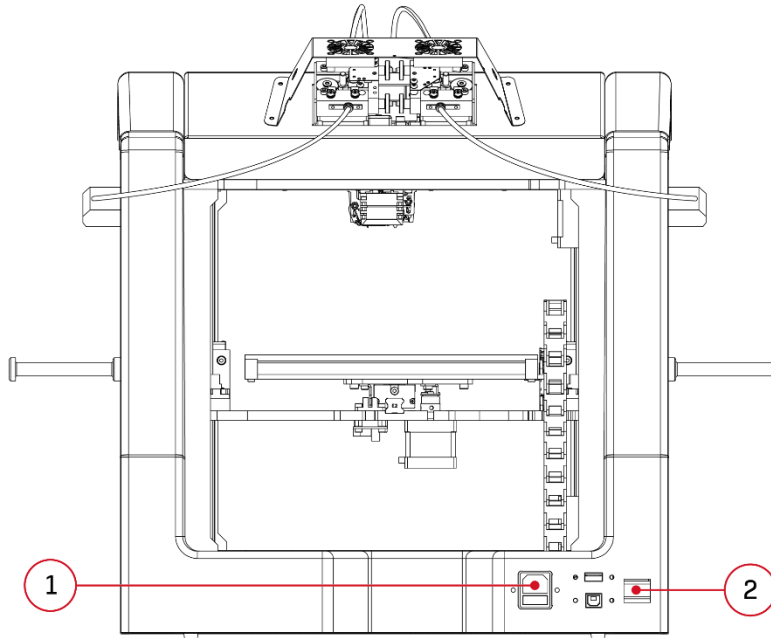

Fig. 36 Rear view of the printer: 1. Power supply socket | 2. Printer switch
3. Place the printer on an even and stable surface and connect it to a power source using a power lead. The power supply socket is located at the back of the printer (fig. 36).
4. To switch the printer on, press ON/OFF button on the right side of the rear panel (fig. 36). The working field lights will light up and the printer's display will be switched on. When the printer's main menu is displayed, the printer is ready to start working.